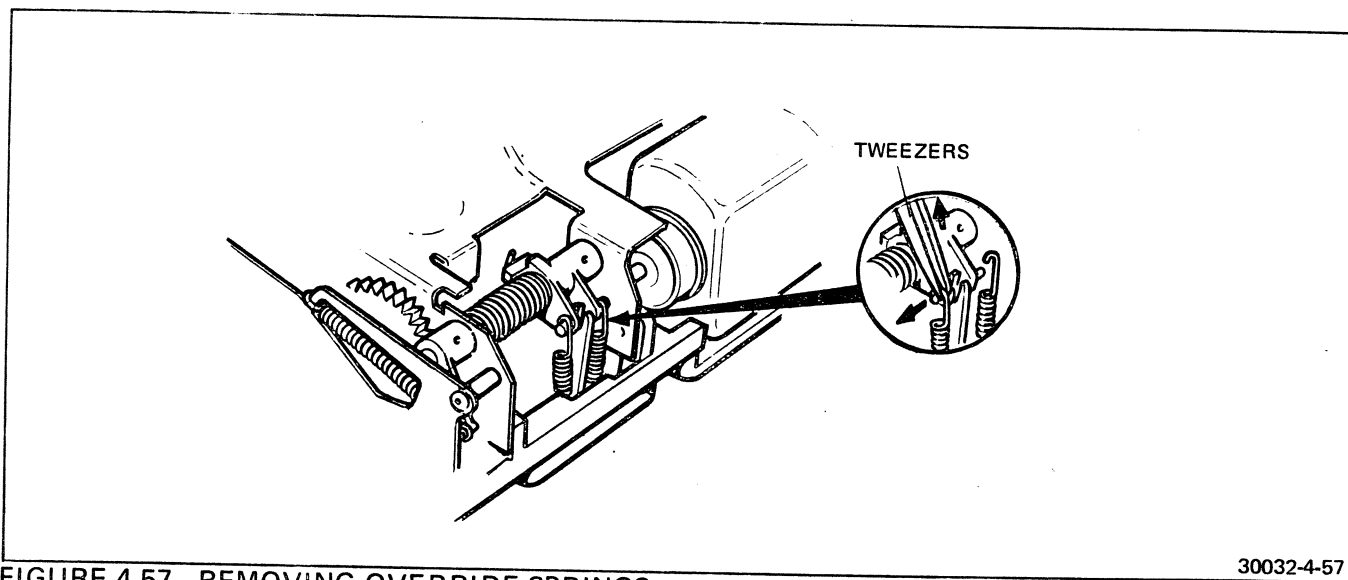

FIGURE 4-57 REMOVING OVERRIDE SPRINGS
26. Use tweezers and remove the two override springs. See Figure 4-57.